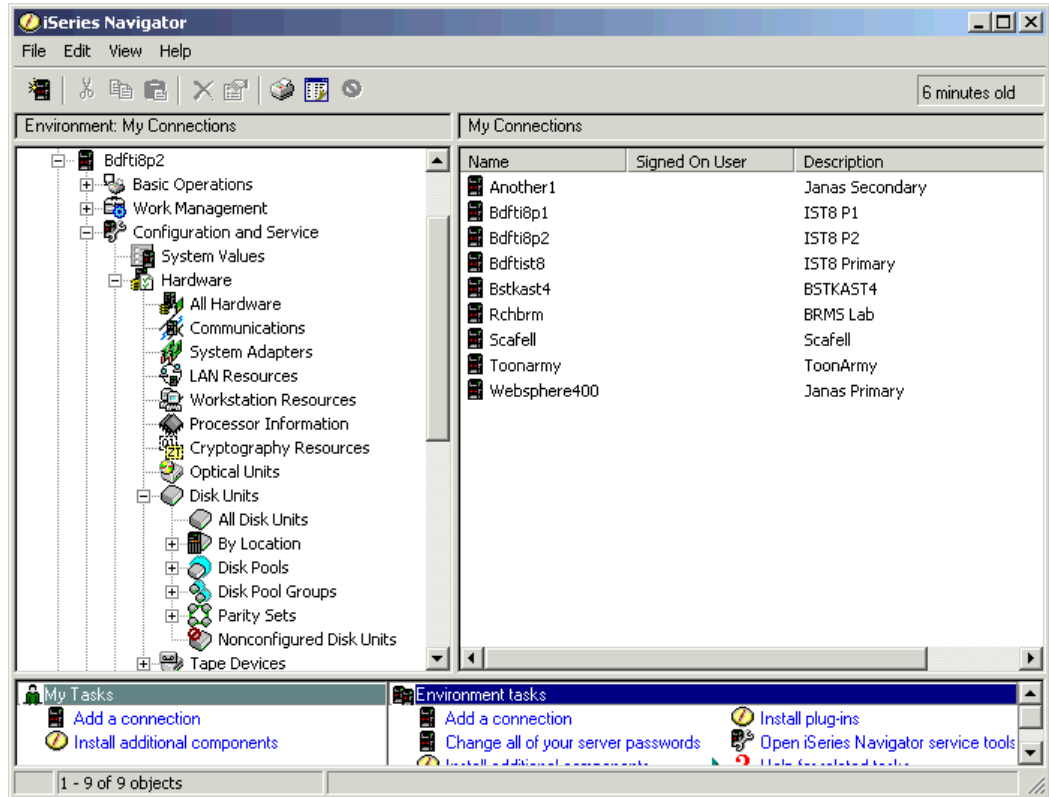

Figure B-10 Create a new disk pool
5. Right-click **Disk Pools** and select **New Disk Pool** as shown in Figure B-10 on page 337.